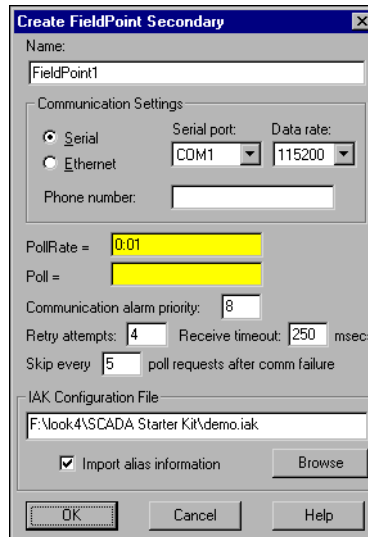

Figure 16. Create FieldPoint Secondary Dialog Box
3. Fill out the **Create FieldPoint Secondary** dialog box as shown in Figure 16. The **IAK Configuration File** field directs the software to the location of the .iak file you created when you installed your FieldPoint hardware. Enter the path to the demo.iak file, or use the **Browse** button if you do not remember the complete path.